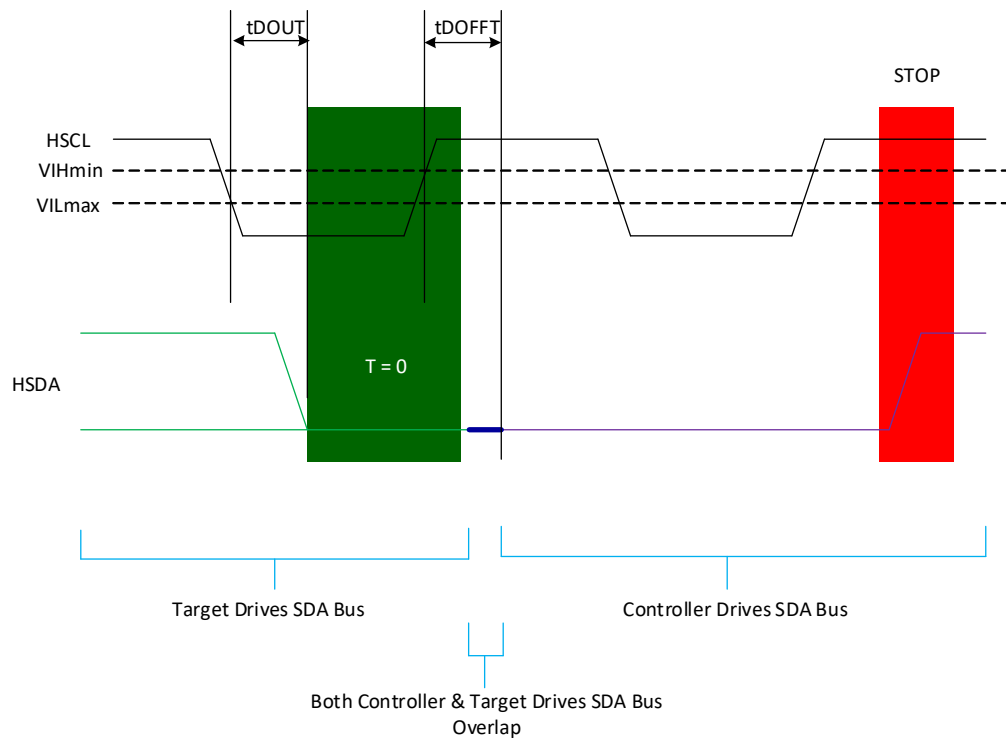

Figure 38 — T=0; Target Ends Read; Controller Generates STOP
NOTE 7 See Figure 38 to see how Host ends target device operation followed by Host STOP operation.
NOTE 2 See Figure 38 to see how Host ends target device operation followed by Host STOP operation.
- NOTE 4 See Figure 38 to see how Host ends target device operation followed by Host STOP operation.
NOTE 2 See Figure 38 to see how Host device ends target device operation followed by Host STOP operation.